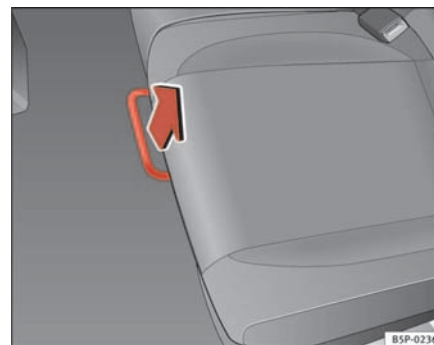

Fig. 97 For unlocking the rear seat
- In the seated position, unlock the lever in the direction of the arrow ⇒ page 129, fig. 97.